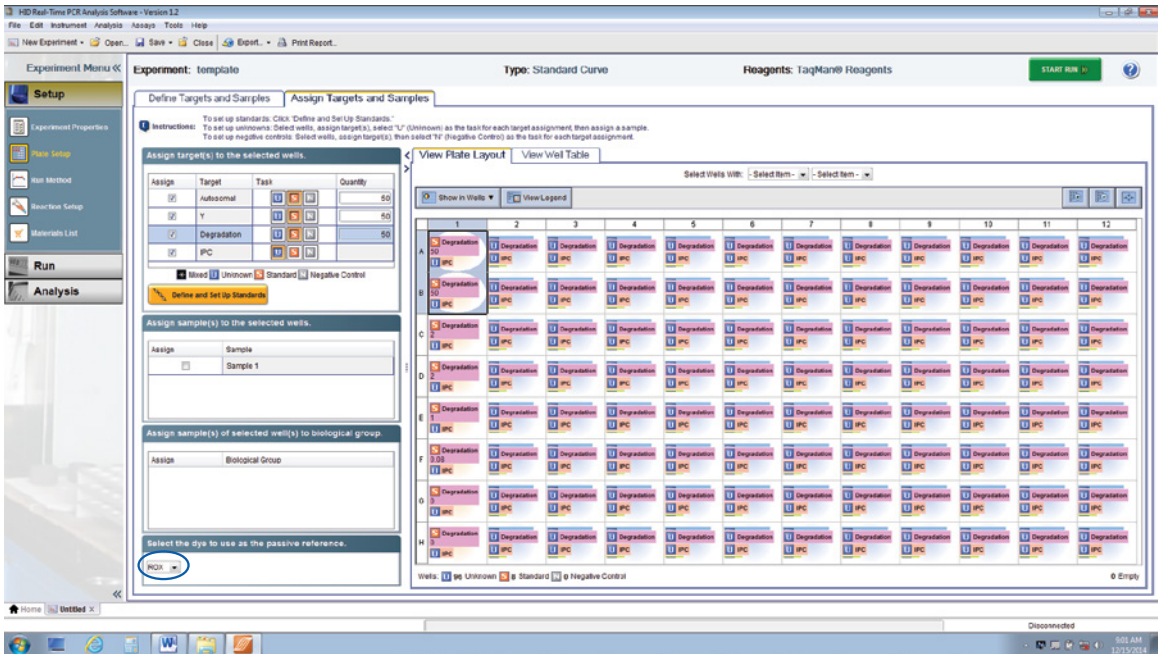

Figure 27. The ‘Assign Targets and Samples’ screen. Select **ROX** as the passive reference.
12. Select **ROX** from the “Select the Dye to use as the passive reference” drop-down menu (Figure 27).